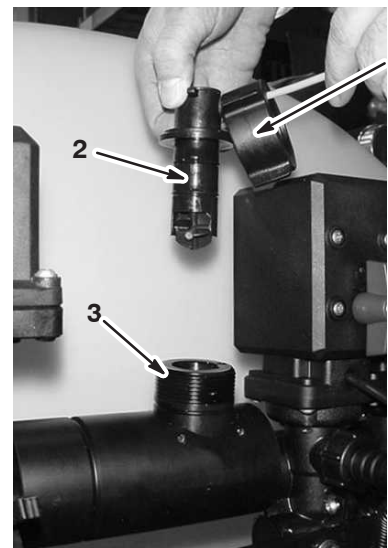

Figure 63
2. Remove the retaining cap from the flowmeter body (Fig. 63).